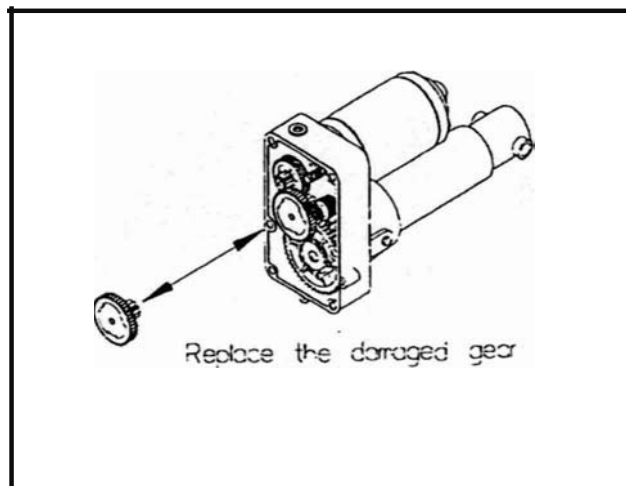

Fig.9
1. Replace one new gear. (See Fig.9)